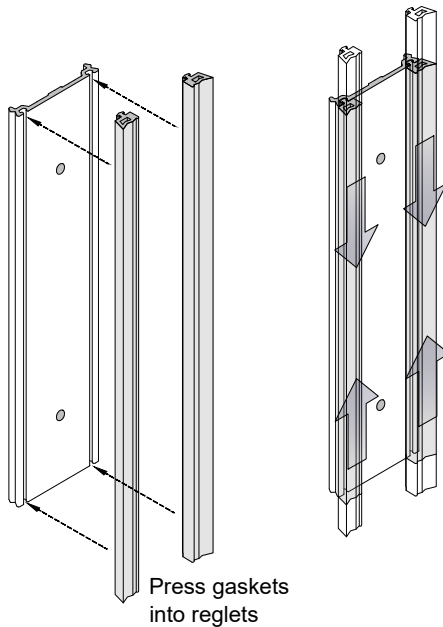

Fig. 47.1
- A. Install P4606 gasket into vertical and horizontal pressure plates. See **Fig. 47.1**. When PTB28 Gasket is used with PTB120 thermal pressure plate seal in place with 1" of sealant on ends, and every 18"